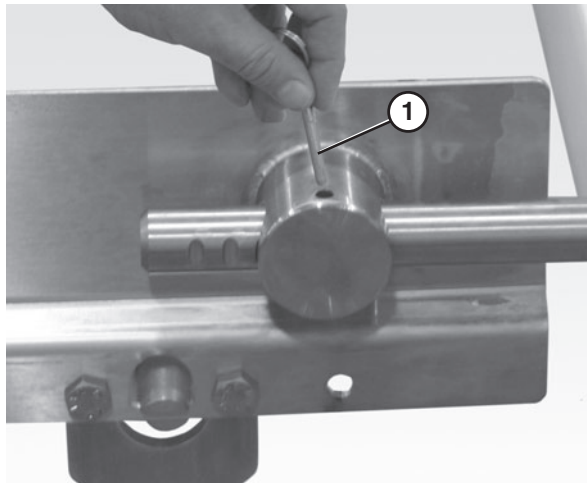

Figure 52
2. Remove the pull pin (**Figure 52, item 1**) on the tension end of the conveyor to release belt tension.